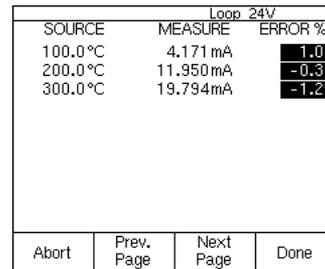

Figure 8
9. Once the DPC has completed this evaluation, it will display the post test summary screen with the SOURCE, MEASURE and ERROR columns. Failures in the error column will be in reverse video (Figure 8). Depress "Done."